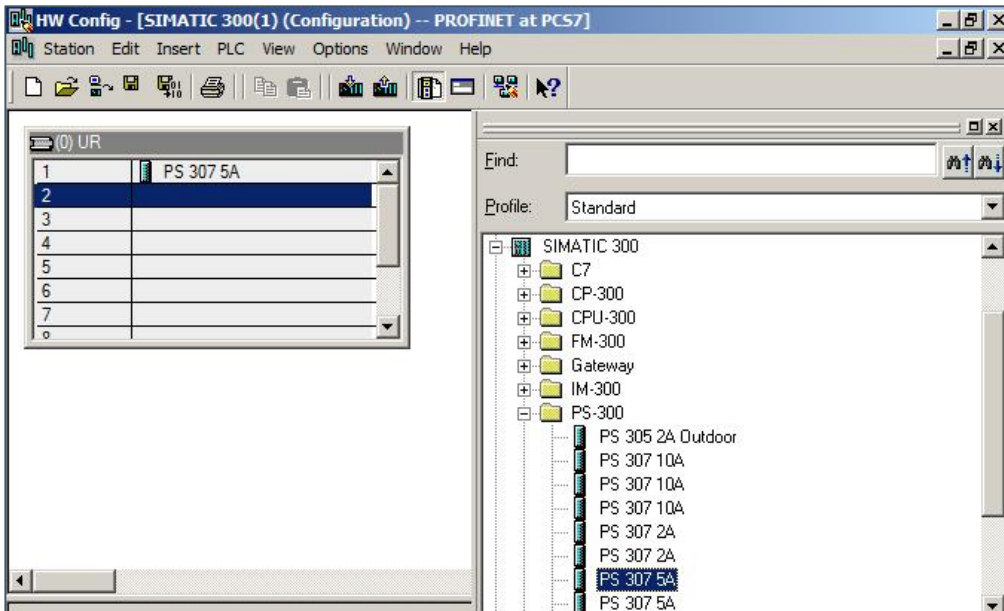

Figure 22: Adding the corresponding power supply
- 2) To add the corresponding power supply, select **SIMATIC 300 > PS-300 > PS 307 5A** (see: Figure 22: Adding the corresponding power supply).